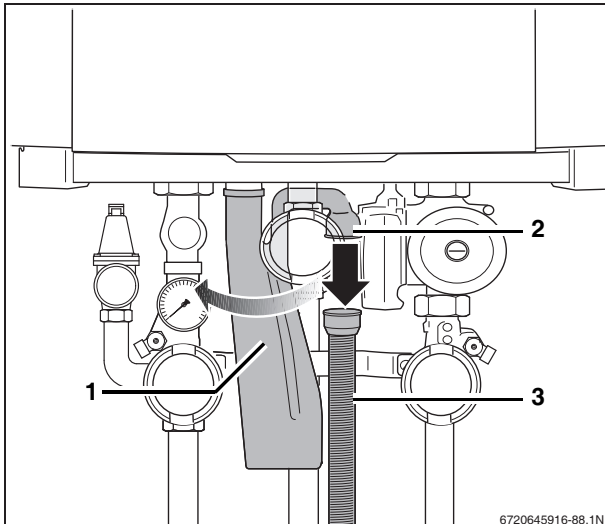

Fig. 87 Disconnecting the condensate trap hose
- Disconnect the condensate trap hose (fig. 87, [3]) and the rubber sleeve (fig. 87, [2]) from the condensate trap (fig. 87, [1]).
- Turn the condensate trap a quarter rotation counterclockwise (fig. 87).
- Disconnect the condensate trap from the coupling and remove it (fig. 87, [1])